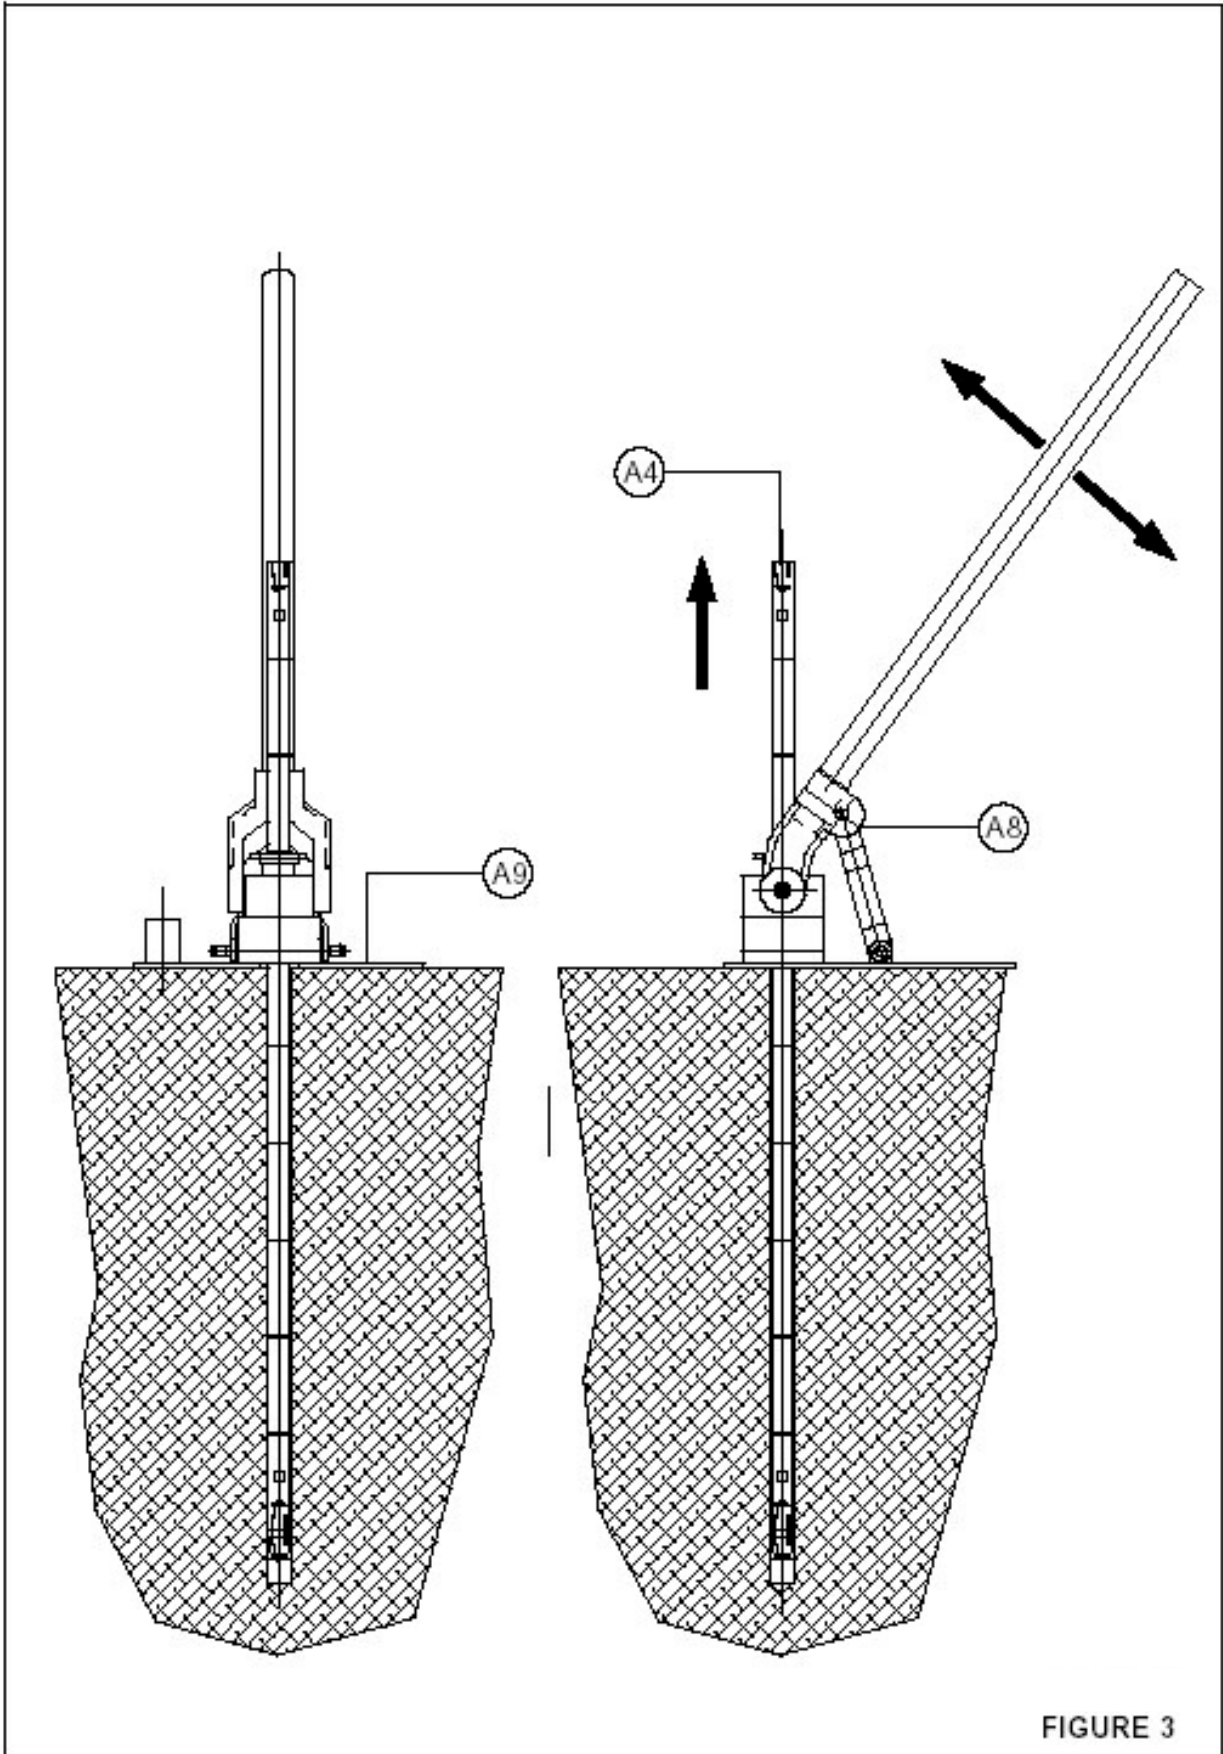

FIGURE 3
12. Mount on the plate the extraction device ( FIG.3)